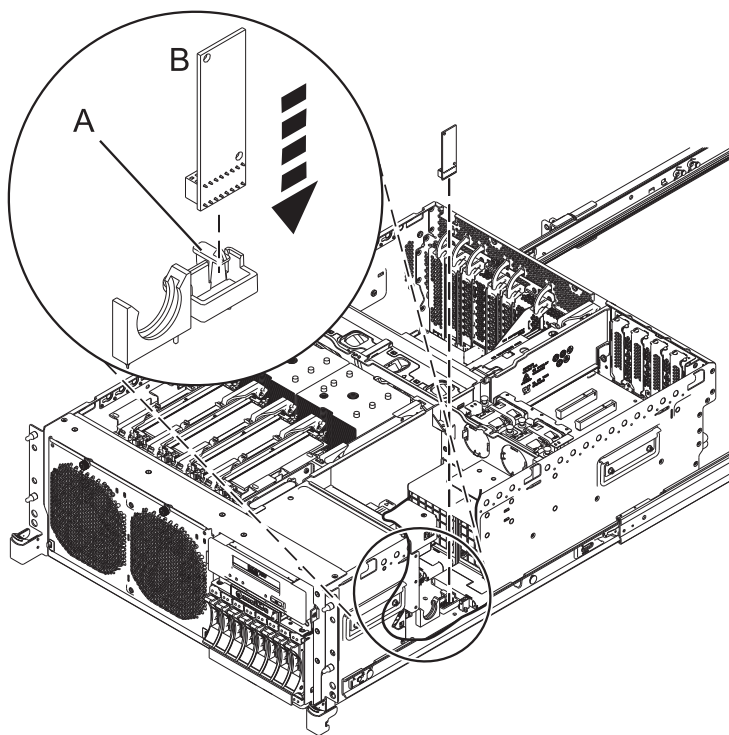

Figure 2. Installing the VPD card
- a. Press on the handle (A) to insert the VPD card (B) into its slot on the system backplane. See Figure 2